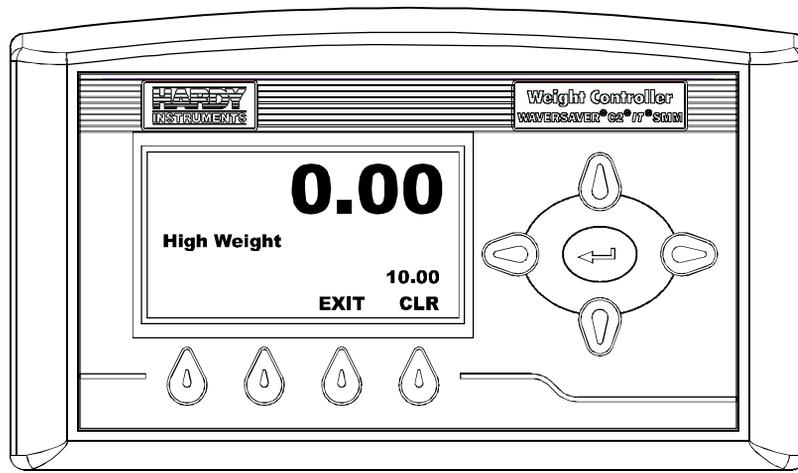

FIG. 156 HIGH WEIGHT MENU/SETTING HIGH WEIGHT
- Step 15. Press the Enter button. the High Weight Menu appears. (See Fig. 156)